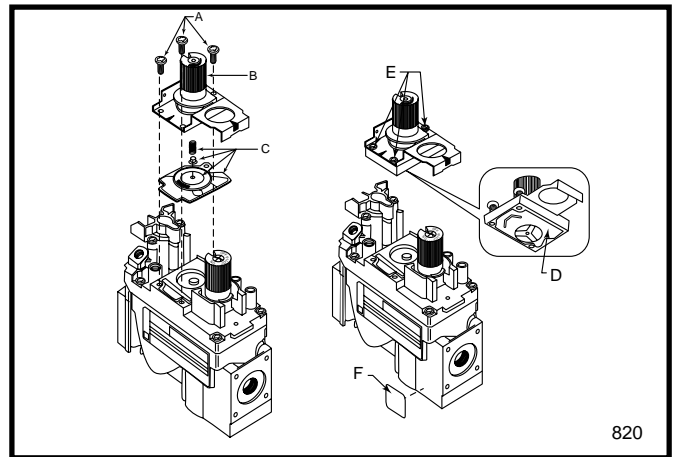

Fig. 47 Nova SIT 820 gas valve.
9. **SIT 820 NOVA Gas Control Valve (Fig. 47)**
- a. Using a Torx T20 or slotted screwdriver, remove and save the three pressure regulator mounting screws (A), pressure regulator tower (B) and diaphragm (C).
- b. Ensure the rubber gasket (D) is properly positioned and install the new Hi/Lo pressure regulator to the valve using the new screws (E) supplied with the kit. Tighten screws securely. (Reference torque - 25 in.LB)
- c. Install the enclosed identification label (F) to the valve body where it can be easily seen.